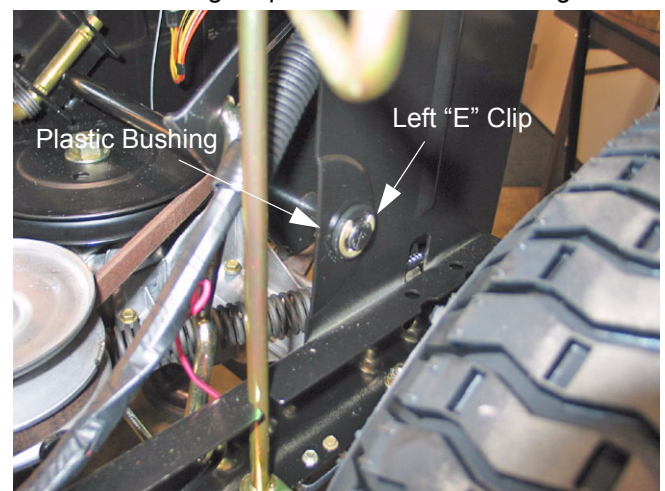

Figure 51
- 12.3. Remove plastic hex bushings. Inspect for wear and damage replace as needed. See Figure 51.